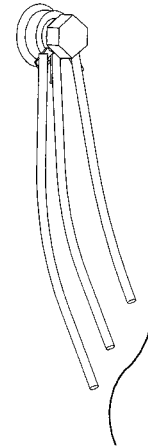

Figure 27. Under-oil arrester jumper ground lead pad with ground leads.
3. Locate arrester ground lead pad (see Figure 27) attached to tank wall.